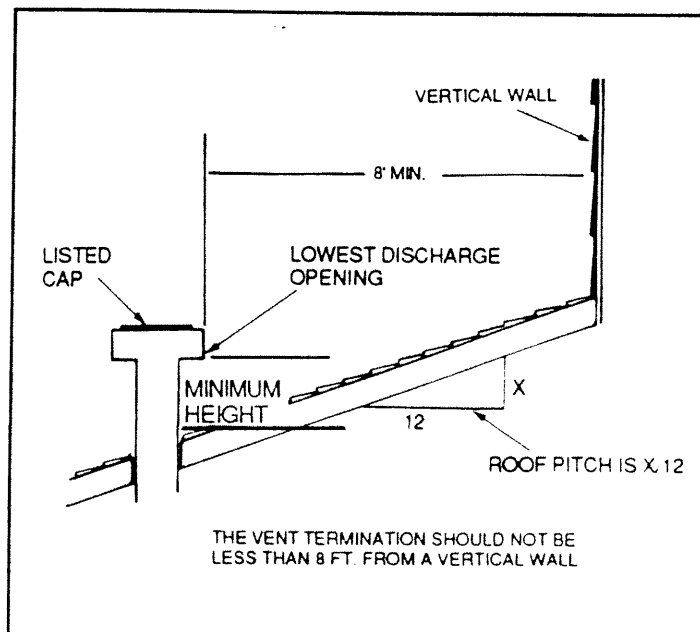

FIGURE 8
8. Listed gas venting systems using listed vent caps 12" and smaller in size may terminate in accordance with the GAS VENT TERMINATION - Table 7 and Figure 8.